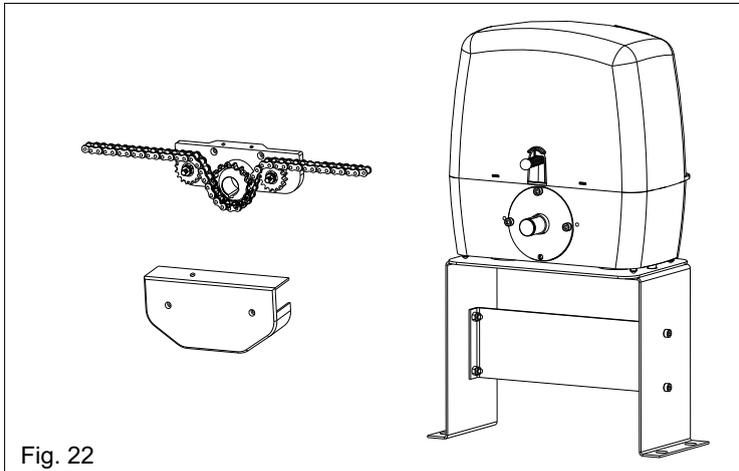

Fig. 22
The assembling of the main parts which include the whole chain automation is illustrated in Fig. 22.
8.2. Install the chain making it pass through the pinion group as in Fig.22.